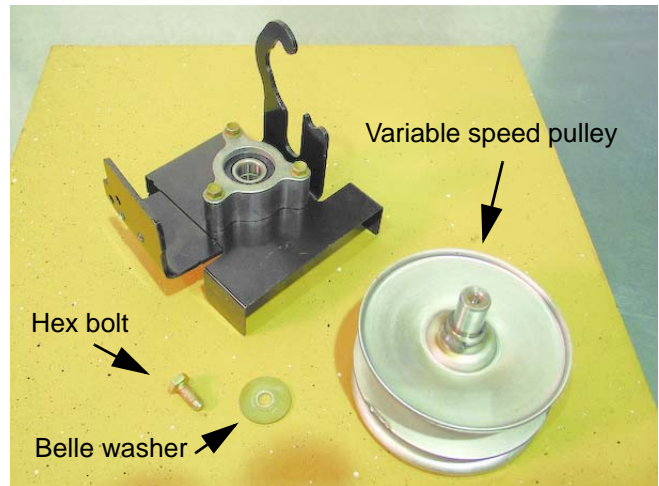

Figure 5.37
- The center partition of the variable speed pulley should slide up-and-down smoothly. See Figure 5.37.